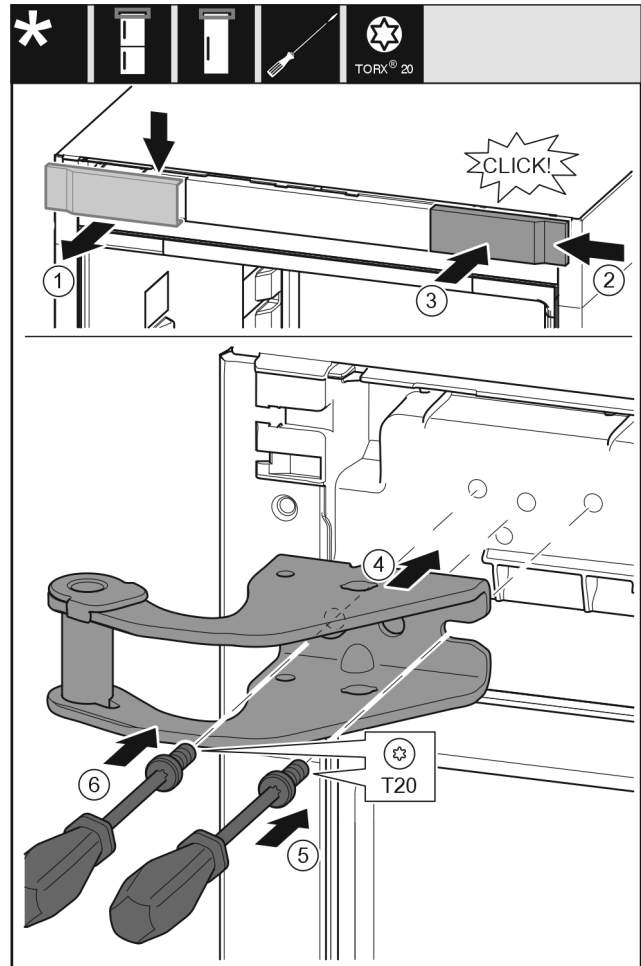

Fig. 12
- ▶ Remove the cover Fig. 12 (1) from the top towards the front.
- ▶ Hang the cover Fig. 12 (2) from the right turned by 180° to the other side.
- ▶ Snap in the cover Fig. 12 (3).
- ▶ Attach the top swap bearing block Fig. 12 (4).
- ▶ Attach and tighten the screw Fig. 12 (5) with a screwdriver.
- ▶ Attach and tighten the screw Fig. 12 (6) with a screwdriver.